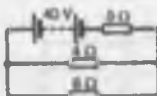

Figure 13.49
- 2 Use Thévenin's theorem to find the current flowing in the 6Ω resistor shown in Fig. 13.49 and the power dissipated in the 4Ω resistor.